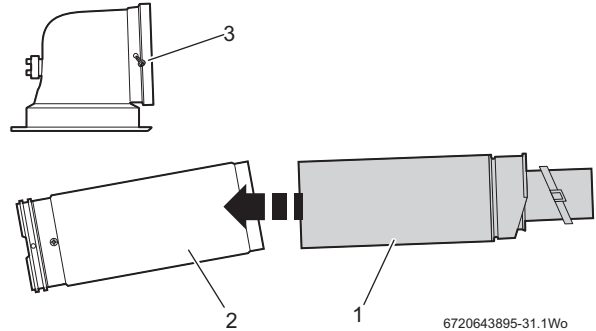

Fig. 40 Reducing the standard terminal
- ▶ If the required length is less than 350mm the standard telescopic flue can be modified, refer to fig. 40.